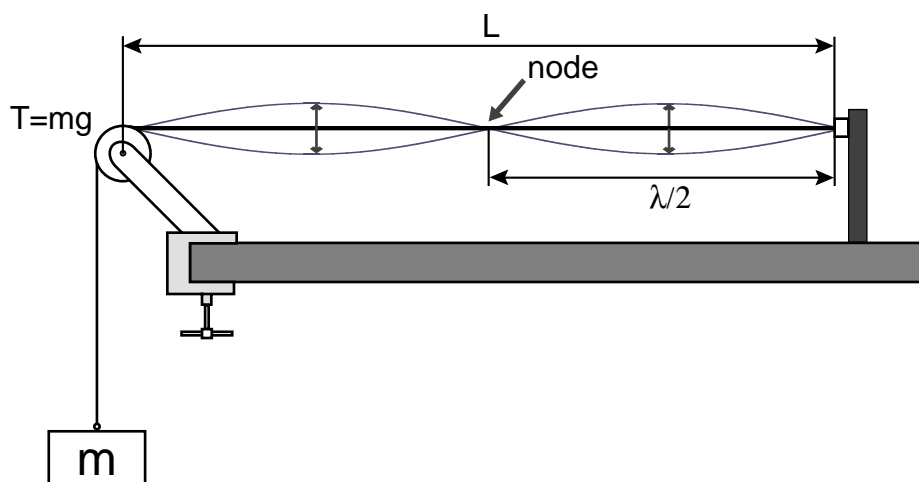

Figure 3
- 1) Set up string and pulley with $m \approx 200$ g and $L \approx 150$ cm. Remember, L is the distance between the top of the wheel and the point where the string is fixed (see Figure 3). Measure this length. NOTE: this is not necessarily the same as the total length of the string you have.